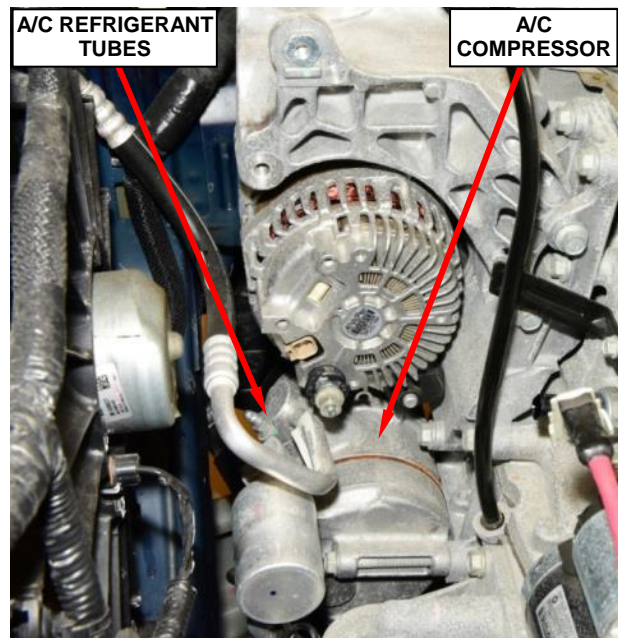

Figure 27 – A/C Compressor
89. Remove and save the nuts that secure the A/C suction and discharge refrigerant tubes to the A/C compressor (Figure 27).